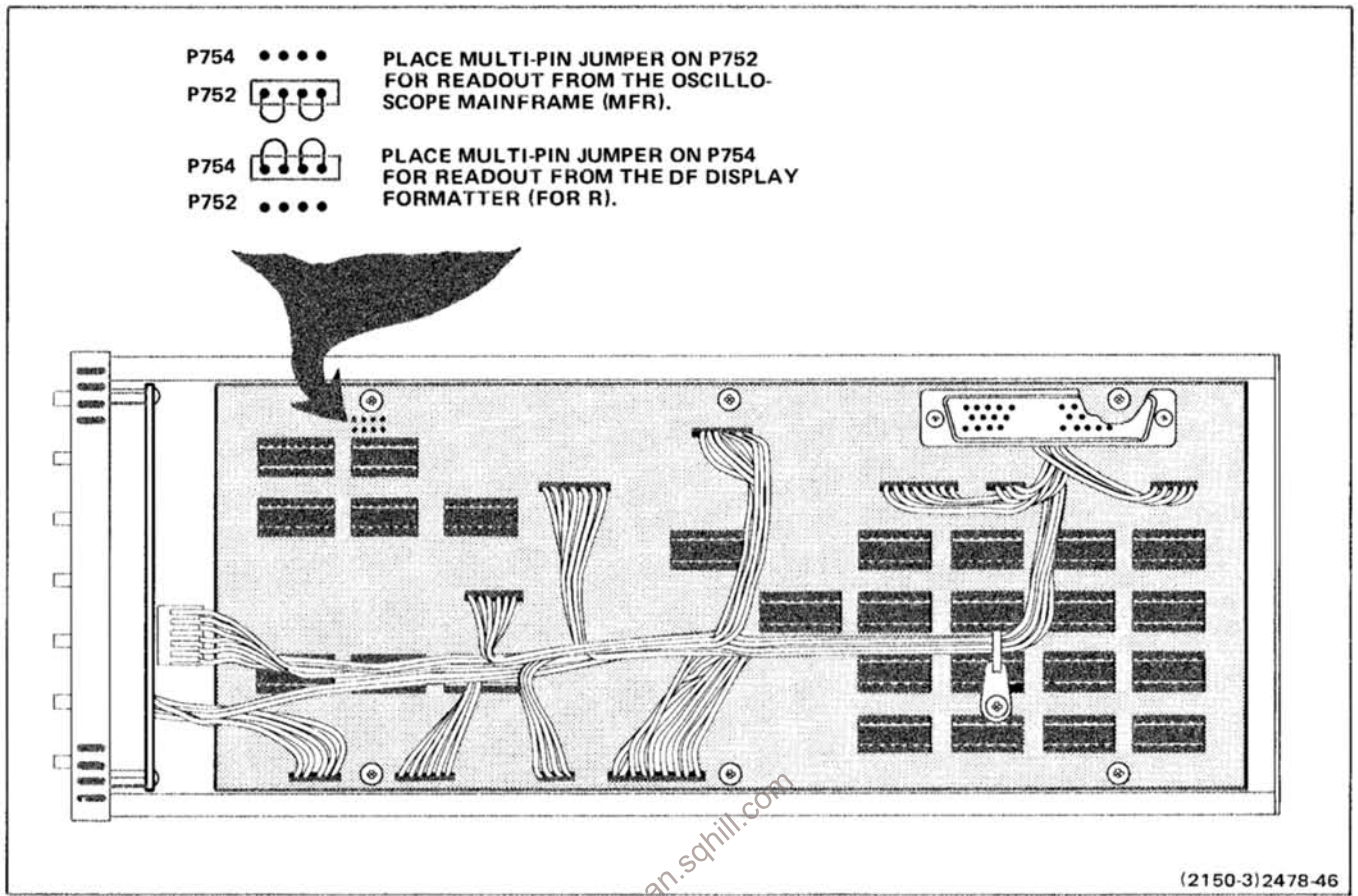

Figure 6-3. Location of readout source multi-pin jumper.
- a. Connect the DF Readout Source multi-pin jumper (internal) to display the formatter readout (FOR R). Refer to Figure 6-3.
g. Connect the DF Readout Source multi-pin jumper (internal) to display mainframe readout (MFR). Refer to Figure 6-3.
- a. Connect the DF Readout Source multi-pin jumper (internal) to display the mainframe readout (MFR). Refer to Figure 6-3.
- b. Set the System Test Fixture ADDRESS switches to 0098, and DATA switch number 0 to HI (1).
d. Set the System Test Fixture ADDRESS switches to 00A8. Set DATA switches: number 3 to HI (1), number 1 to HI (1), and number 0 to LO (0).
- d. Set the System Test Fixture ADDRESS switches to 00A8. Set the DATA switches: number 3 to HI (1), number 1 to HI (1), and number 0 to LO (0).